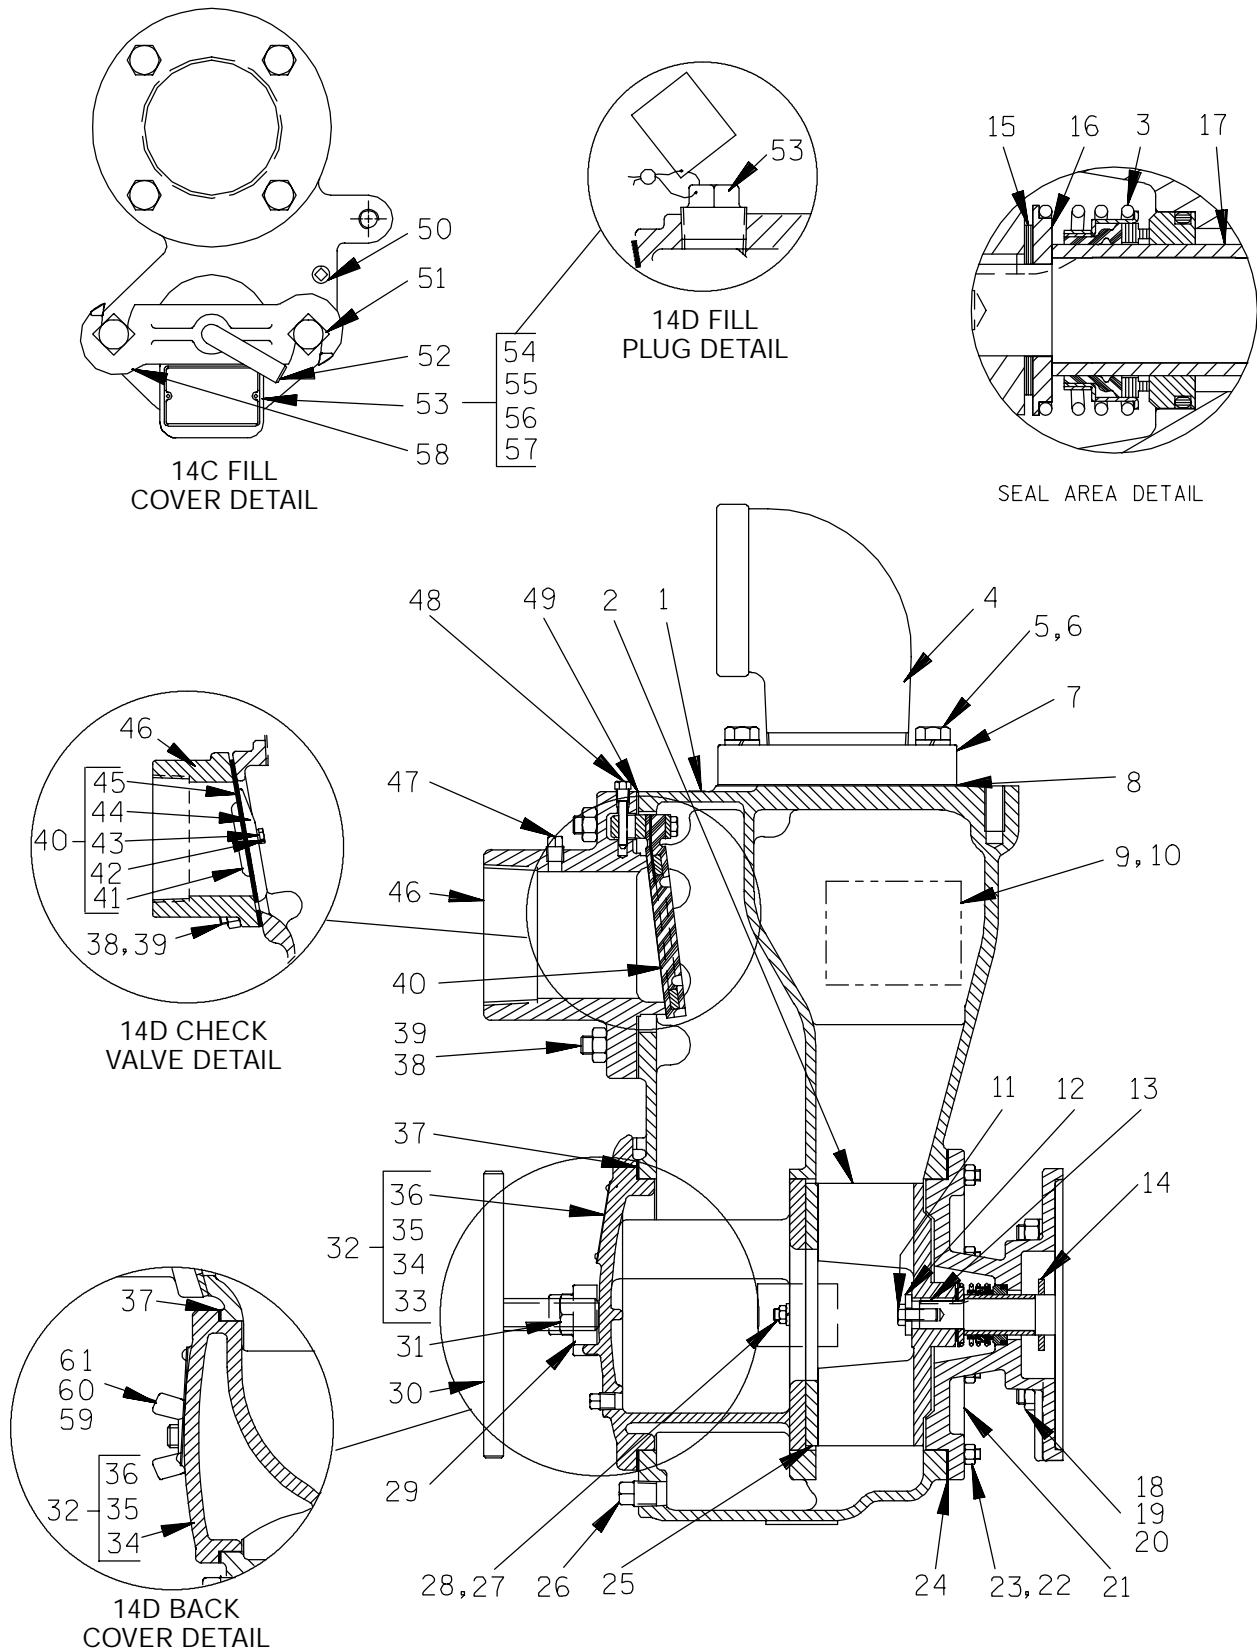
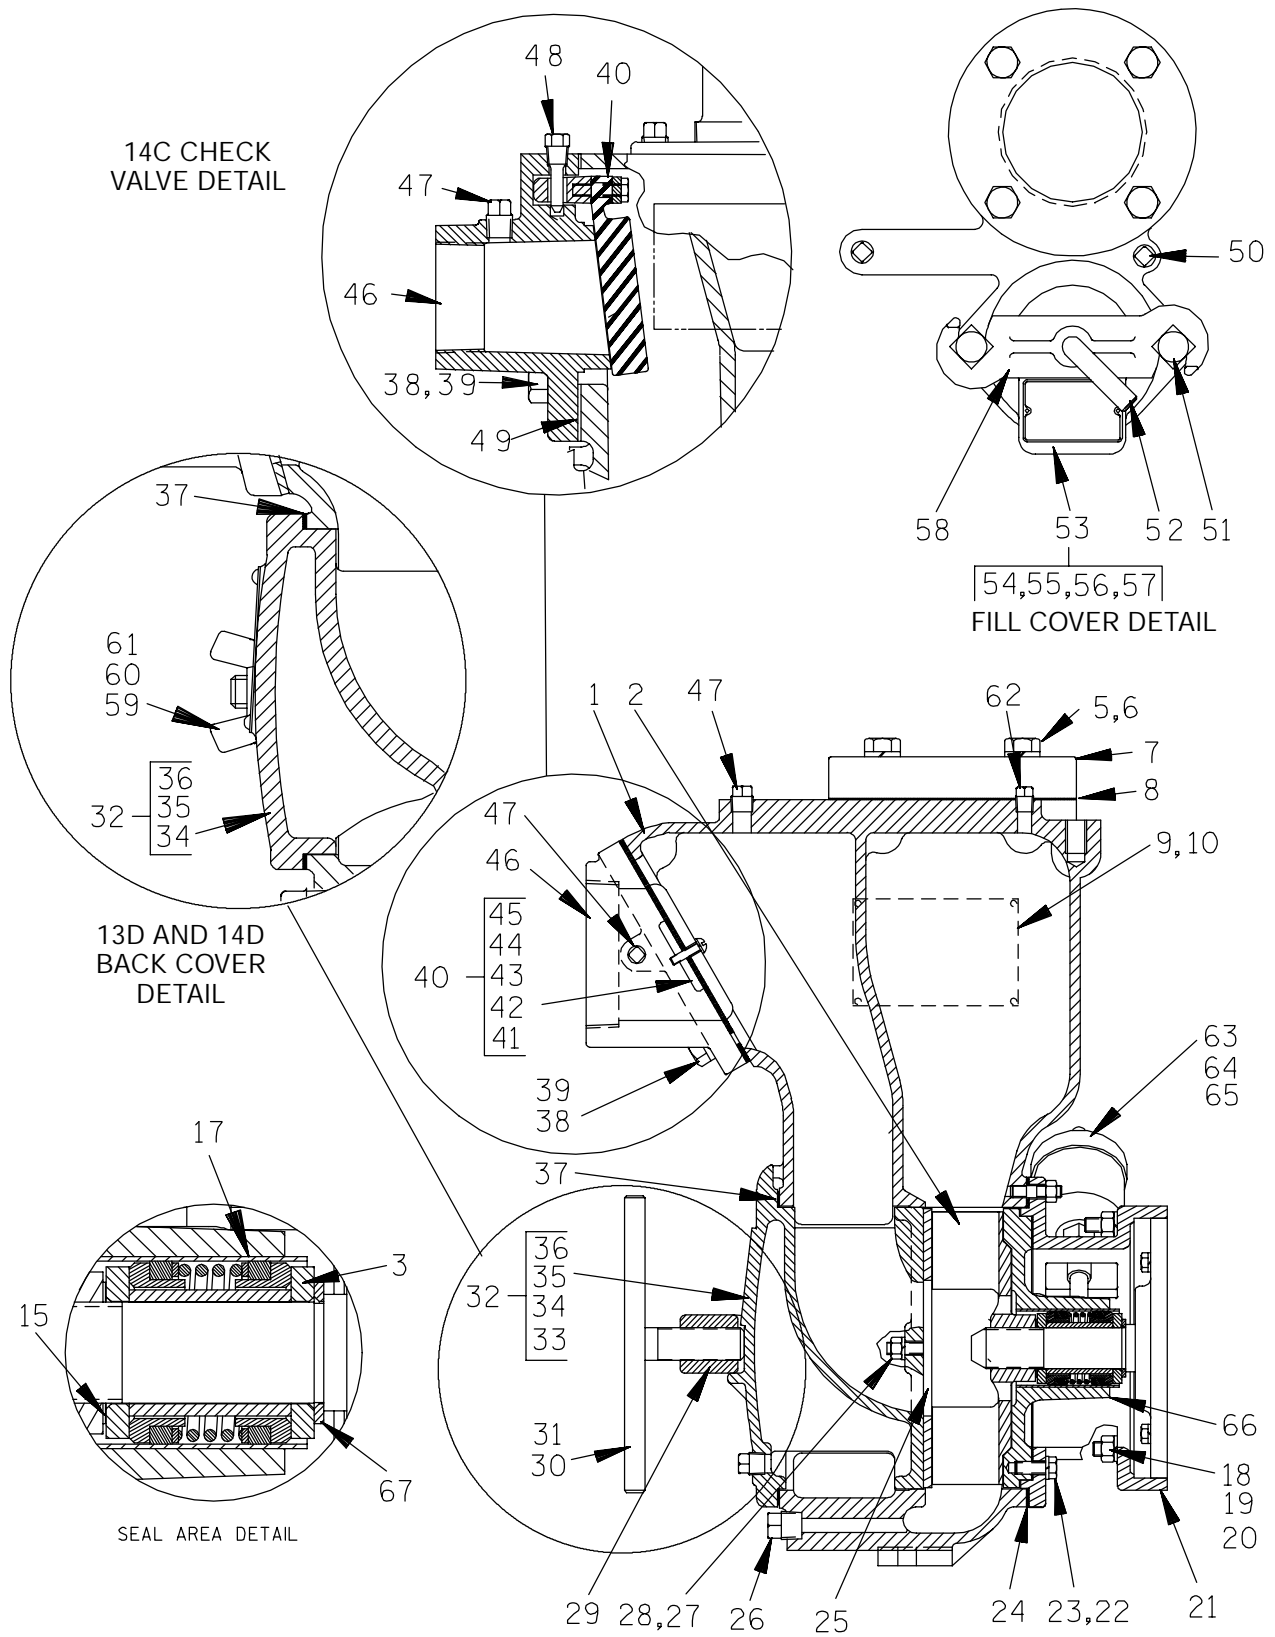

Figure C-1. Typical 14C And 14D Pump End Assembly w/Self Lubricated Mechanical Seal
Figure C-2. Typical 13D, 14A, 14C, 14D And 16D Pump End Assembly w/Grease Seal
This pump requires little service due to its rugged, minimum-maintenance design. However, if it becomes necessary to inspect or replace the wearing parts, follow these instructions which are keyed to the sectional views (see Figure C-1 or C-2) and the accompanying parts list. Unless otherwise specified, the instructions apply to either Figure C-1 or Figure C-2.
(Figure C--1 or Figure C--2)
If the pump is equipped with a grease seal, turn the cross arm on the automatic lubricating grease cup (63, Figure C-2) clockwise until it rests against the cover (see Figure C-7) before attempting to remove the impeller (2). This will prevent the grease